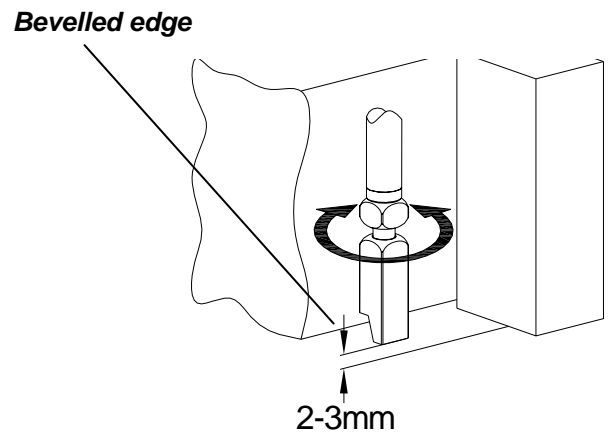

Fig 4.9
- 11) With the rods held into position by the top tripper, adjust the bottom shoot bolt to obtain a required clearance of 2-3mm. **See Fig 4.9**